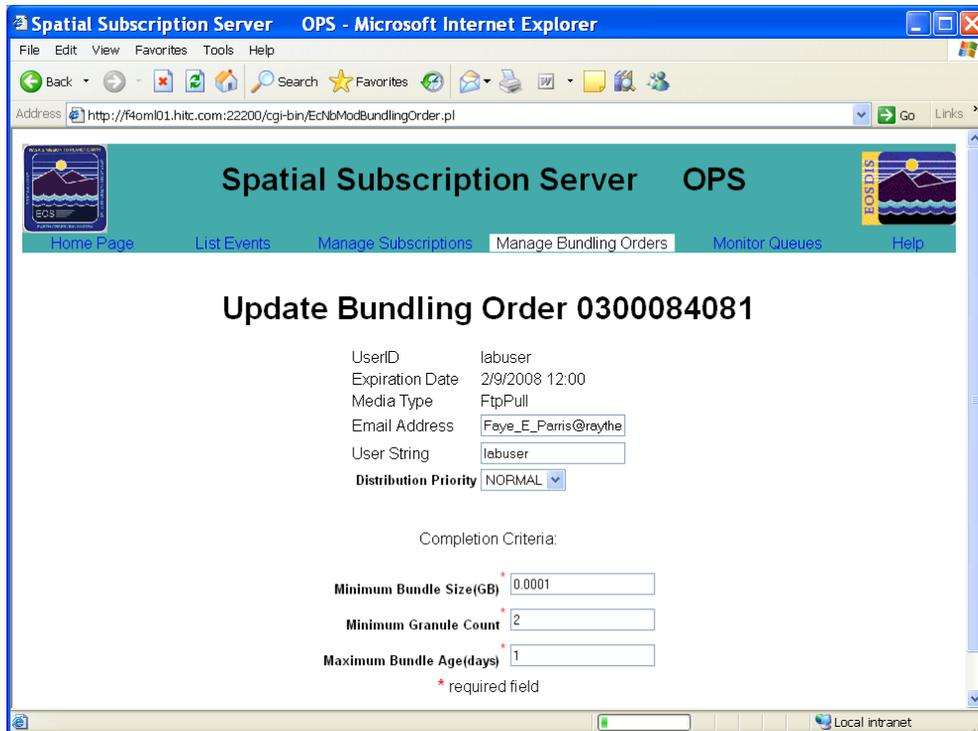

Figure 16.1-15. Update Bundling Order Page 2
- The GUI displays an **Update Bundling Order x Detail** page (see Figure 16.1-15) that is appropriate for the selected **Media Type**.